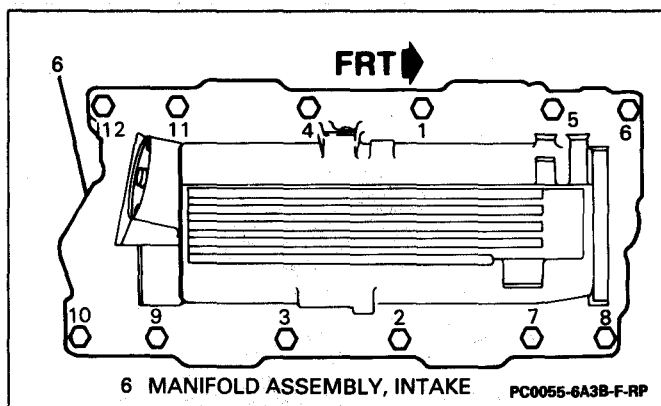

Figure 6 - Intake Manifold Tightening Sequence
- Intake manifold bolts/screws (8) and studs (9) in a first pass to 8 N•m (71 lb. in.) in sequence as shown in Figure 6. Tighten in sequence in a second pass to final specifications of 48 N•m (35 lb. ft.).
4. Throttle body assembly (3), gasket (5) and throttle body bolts/screws (4).